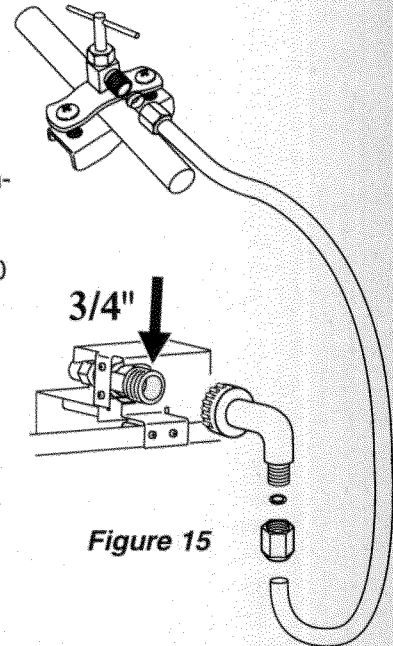

Figure 15
2. The 1/4" OD copper tubing between the shut-off valve and solenoid valve has a *Metric R3/4 male connector (Figure 15)*. Make sure there is approximately 30" (70 cm) of excess tubing behind the unit for easy connection.